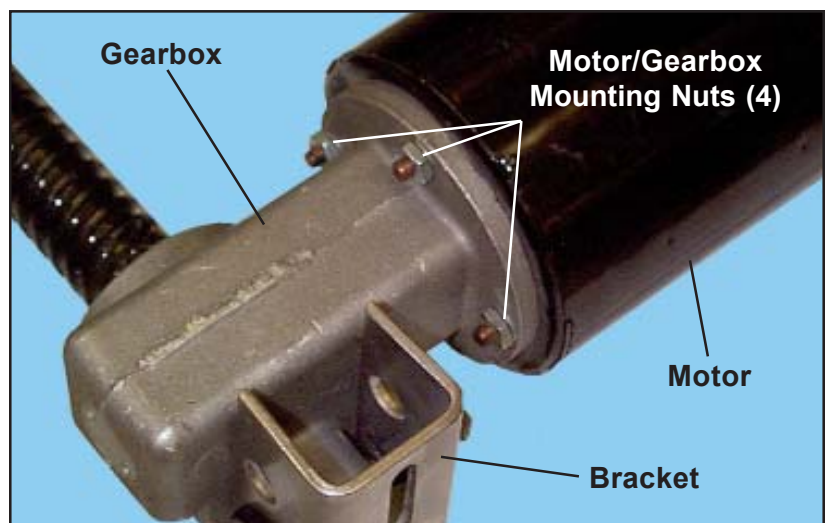

Figure 46. Motor/Gearbox Mounting Nuts
2. With a 3/8-in. wrench, remove the four nuts and lockwashers that hold the motor to the gearbox (Figure 46).
2. Secure the motor to the gearbox with the four nuts/lockwashers (Figure 46).